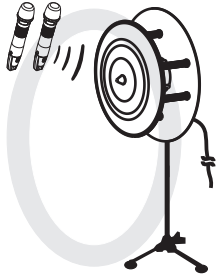

Fig. 4: Correct.
2. Screw on the Fixed Screw Nut tightly and loosen the Fixed Knob, adjust antenna's directional angles for proper positions and then revolve the Fixed Knob tightly for best performance result. Fig. 4, 5